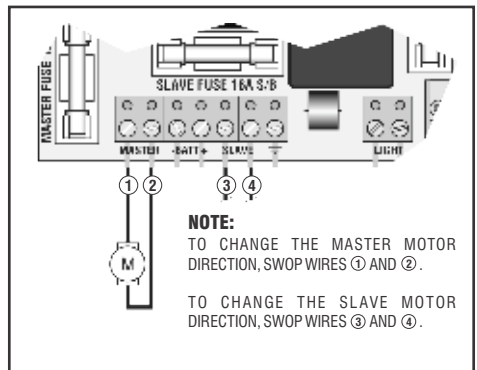

Figure 30 CP75 Controller Motor Wire Connections
**If the gate OPENS**, release the TEST button and swop the master or slave motor wires as shown in Fig. 30. To continue the setup, **press and hold** the test button as in step 17.